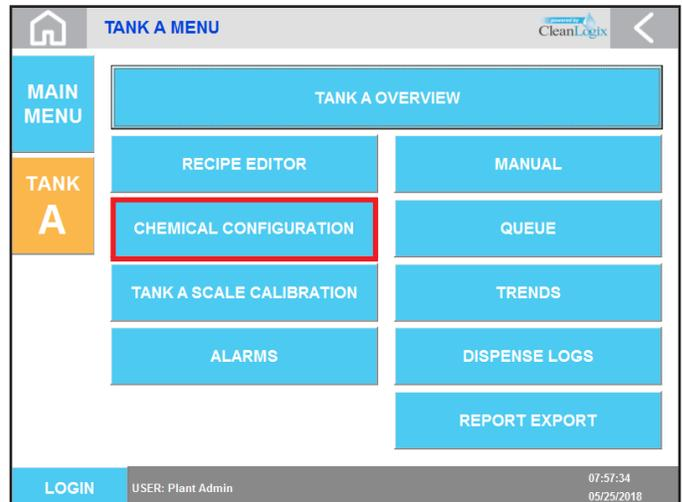

Figure 8.1: Tank A Menu
2. Click the Home icon and navigate to the **TANK A > CHEMICAL CONFIGURATION** [Figure 8.1].